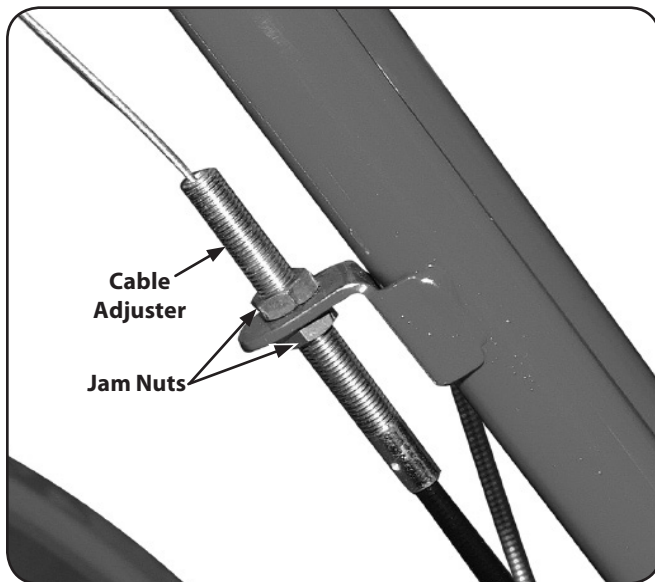

Figure 3-8
3. Attach the cable adjuster to the bracket on the right-side handlebar. See Fig. 3-8. Use the two ½" wrenches to loosen the two jam nuts just enough to slide the cable adjuster onto the bracket. Then hand tighten the jam nuts.